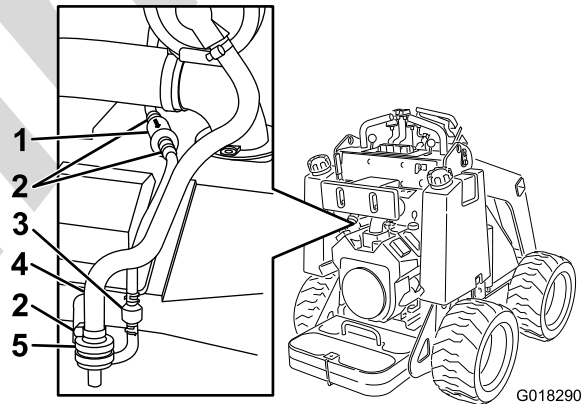

Figure 22
2. Loosen the hose clamp above the carbon canister air filter (Figure 22).
3. Remove and discard the air filter (Figure 22).
4. Install a new filter into the hose and secure it with the hose clamp (Figure 22).
2. Move the spring-type hose clamps on both sides of the carbon canister purge-line filter away from the filter (Figure 22).
3. Remove and discard the carbon filter (Figure 22).
4. Install a new filter into the hose with the arrow on the filter pointing towards the check valve and secure it with the hose clamps (Figure 22).